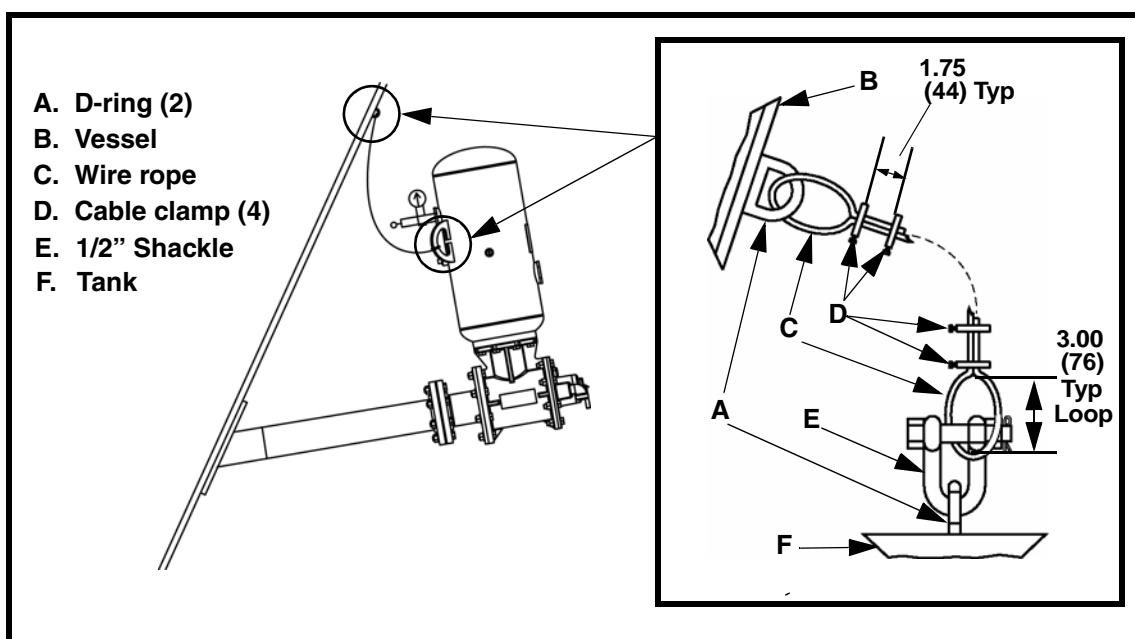

Figure 11. Installing Restraining Cable
1. Weld D-ring (A, Figure 11) onto storage vessel (B) with 1/4-in. (6-mm) field weld.